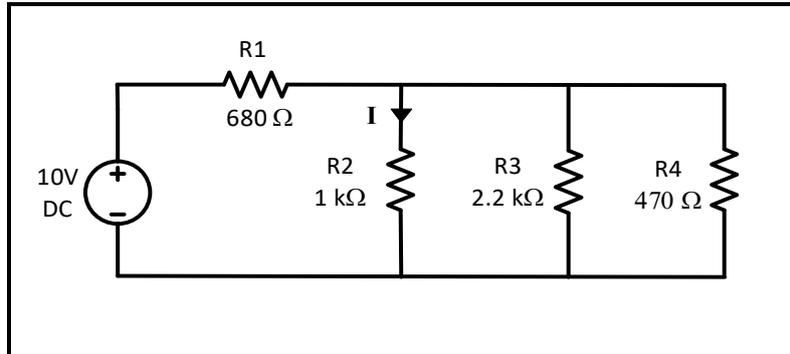

Figure 4.8
1. Connect the circuit of Figure 4.8, measure and record the current I in Table 4.8.